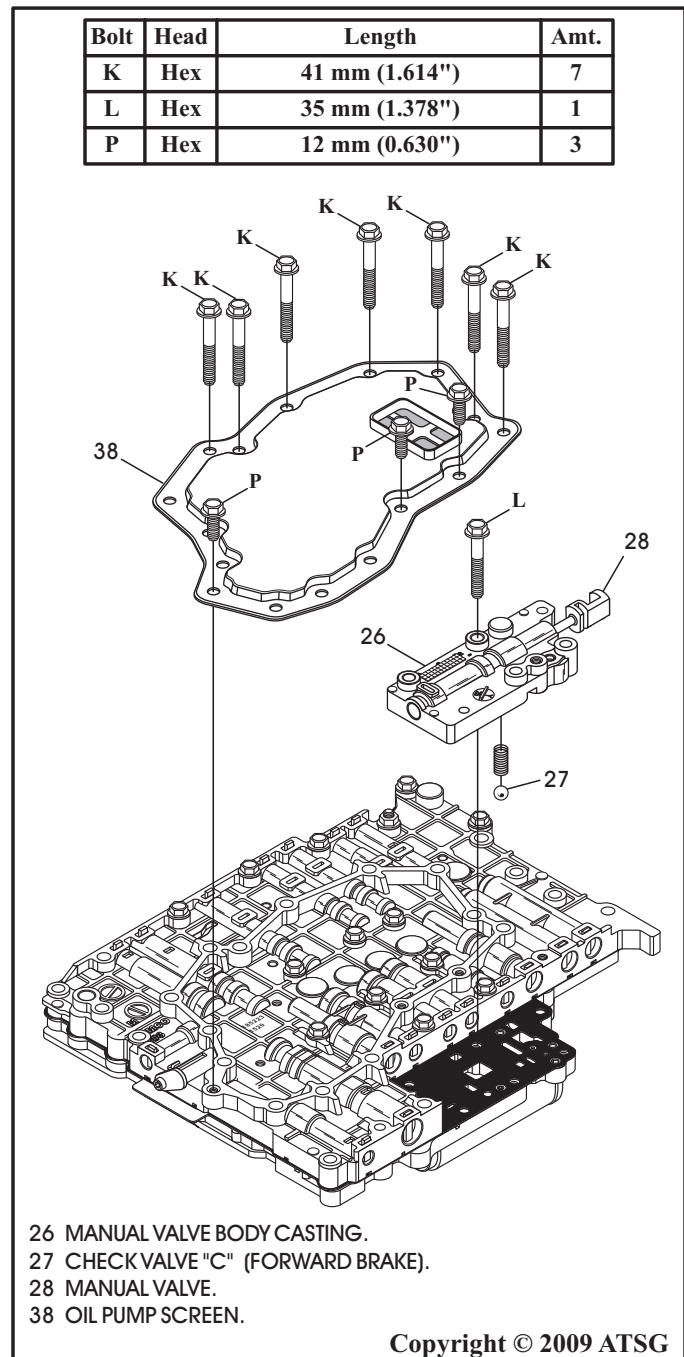

Figure 167
13. Remove the three hex head bolts identified with the letter P from the filter, as shown in Figure 167.
14. Remove the seven hex head bolts identified with the letter K from the filter, as shown in Figure 167, and remove the filter.
15. Remove the hex head bolt identified with the letter L from the manual valve body, as shown in Figure 167, and remove manual valve body.